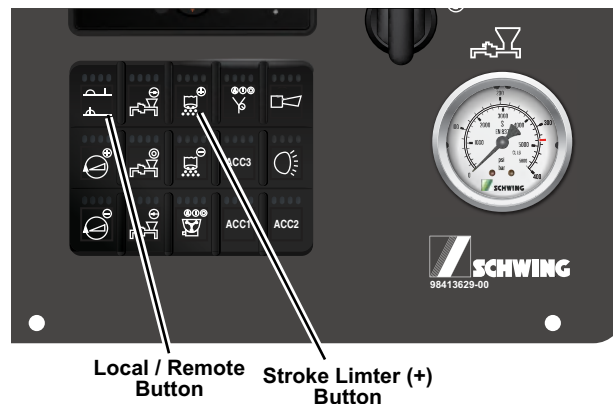

Figure 39
2. At the rear operator panel, select “local” control with the “local/remote” button. Press and hold the stroke limiter (+) button until the stroke limiter is at maximum output (Figure 39).